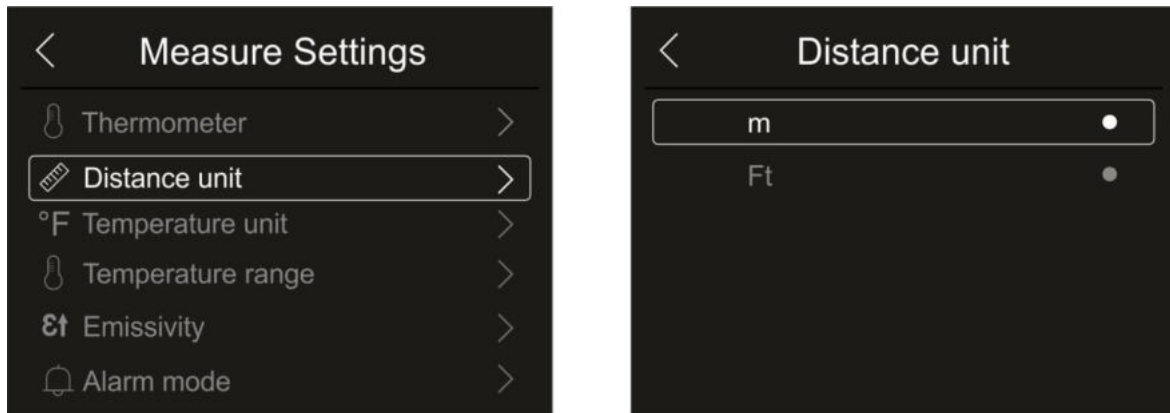

Fig. 22: Menu Setting the distance measuring unit
1. Touch the item “Distance unit” to set the measuring unit of distance. The screen in Fig. 22 – right side appears on the display: